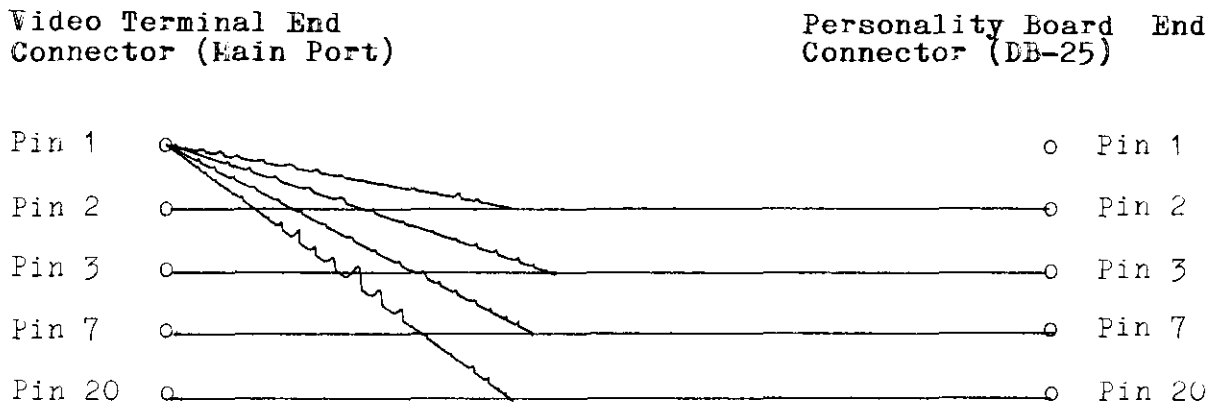

FIGURE 1.8
5. To connect the Video terminal to the RPB-200 personality board, solder or crimp the wires at each end of the RS-232 cable to the DB-25 male connectors. Figure 1.8 illustrates the pinwire pin assignment. **Tie pin 1 on the Video Terminal end ONLY.**